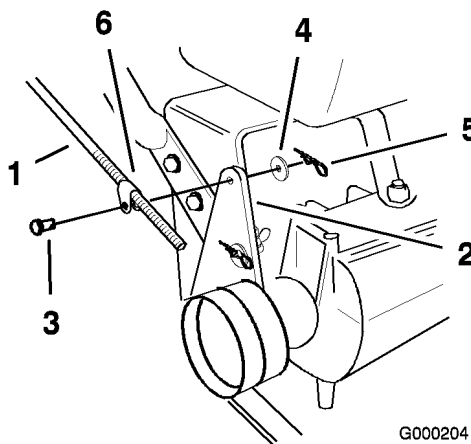

Figure 27
1. Remove hairpin cotter, washer and clevis pin securing control rod fitting to idler bracket (Figure 27).